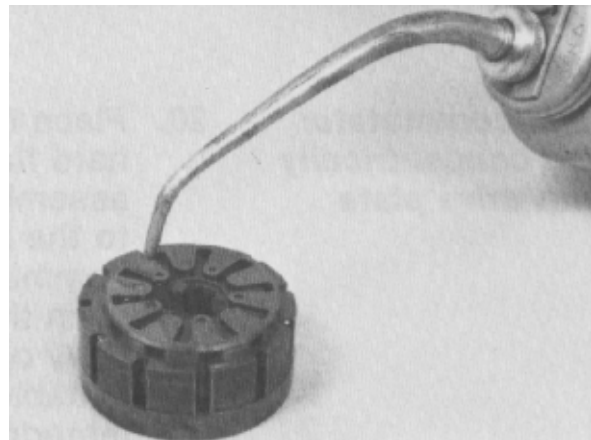

Figure 95
15. Put a few drops of oil into each recess in the commutator (Fig. 95).